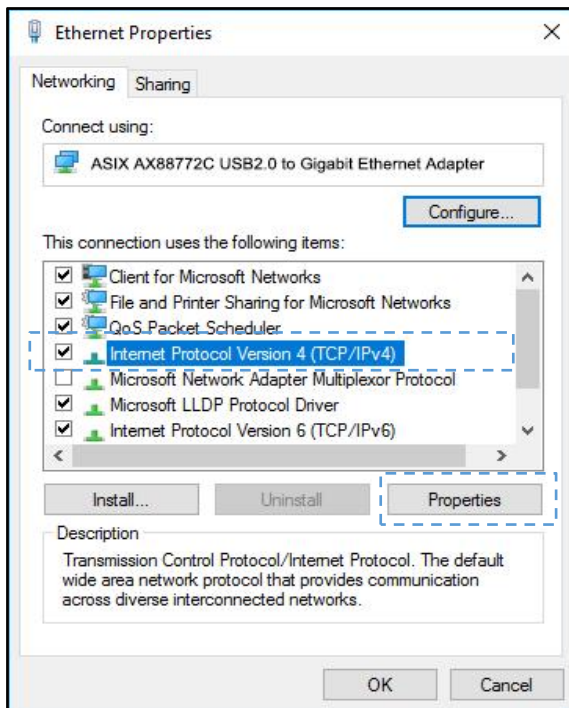

Figure 5-5 Ethernet Properties
Step 4: Select "Properties" by right-clicking on the selected network icon (or double-click the network icon), open the "Ethernet Properties" window (Figure 5-5), select "Internet Protocol Version 4 (TCP/IPv4)", and then click the "Properties" button;